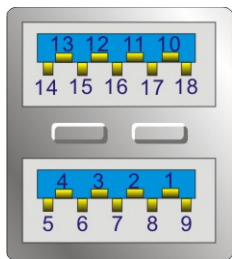

Figure 3-26: USB 3.1 Gen 1 Port Pinout Locations
- CN Pinouts:** See **Figure 3-26** and **Table 3-25**